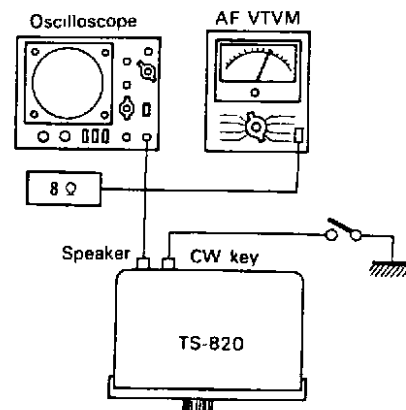

Fig. 39 Adjustment of side tone
- 1) In Fig. 39, adjust VR3 in AF • AVR unit (X49-1080-00) until AF output becomes 50 mW (0.63 V/8Ω) with the key down (refer to Fig. 28).